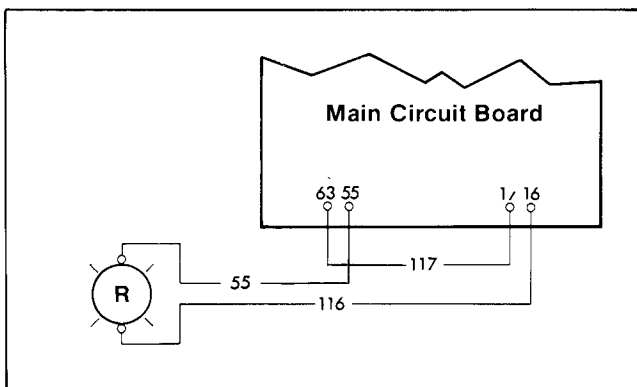

Figure 21. 21-B, D, Connections
- **Acc. 12-B, D Emergency Position**, lights to show transfer switch connected to emergency source. See Figure 21 for connections.